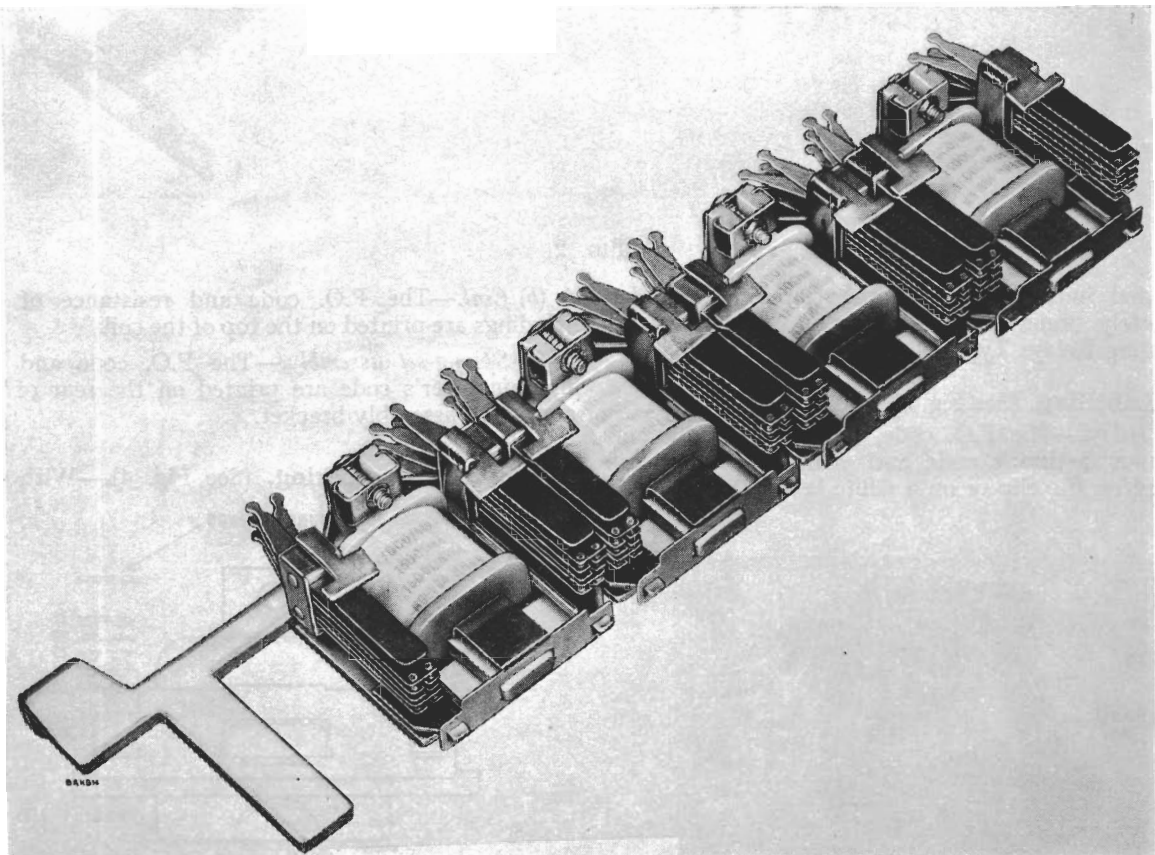
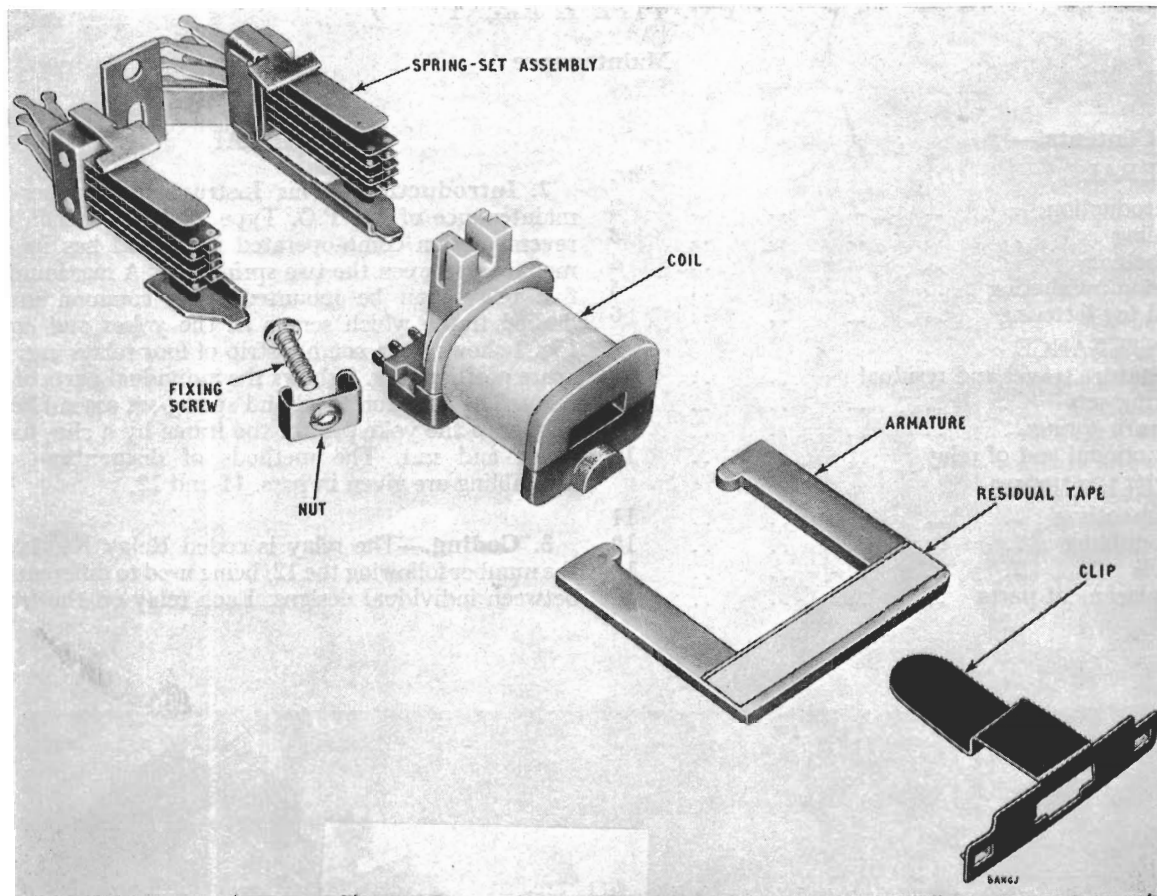

Fig. 1
FIG. 2
2. Introduction.—This Instruction describes the maintenance of the P.O. Type 12 Relay which is a reverse action comb-operated relay and has its coil mounted between the two spring-sets. A maximum of five relays can be mounted on a common multi-limbed frame which serves as the yokes and cores. Fig. 1 shows the assembly strip of four relays and one spare position. Fig. 2 shows the individual parts of the relay. The armature, coil and spring-set assembly are held onto the yoke part of the frame by a clip, fixing screw and nut. The methods of dismantling and assembling are given in pars. 11 and 12.